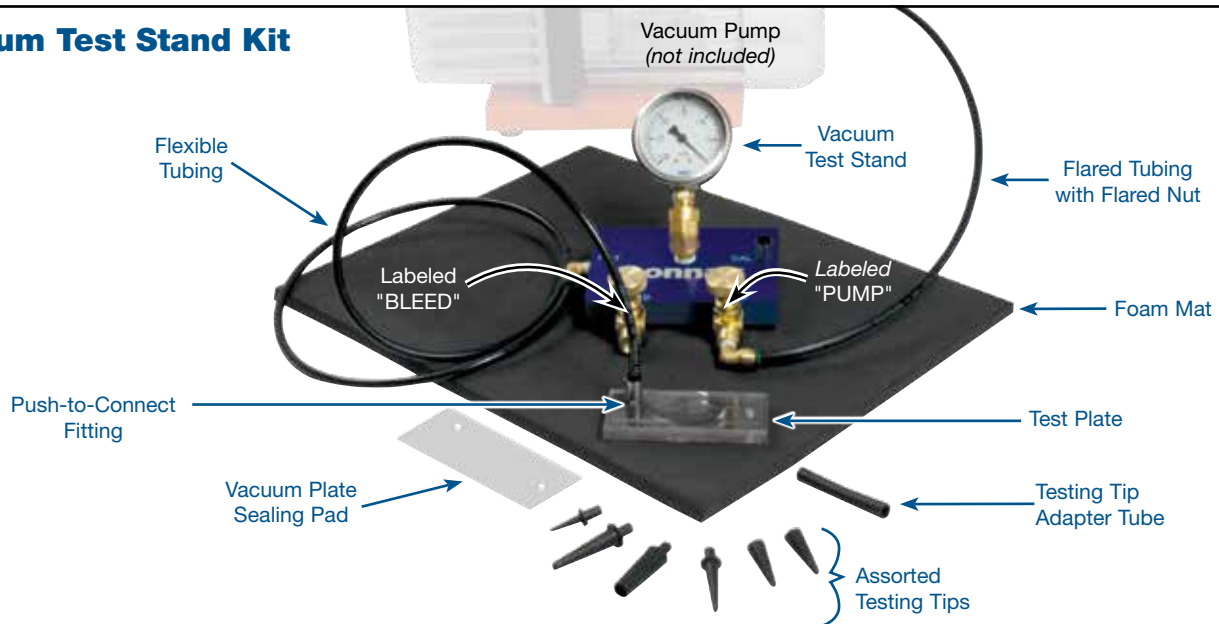

Figure 2
- b. Using Sonnax vacuum test stand kit **VACTEST-01K** (sold separately, **Figure 2**) and small vacuum tip, vacuum test at numbered orifices on plate. These numbers correspond to the bore numbers called out in the exploded view of the valve body on page 6. The chart on page 8 provides descriptions of individual circuit checked and space to document actual vacuum readings and minimum vacuum standards.